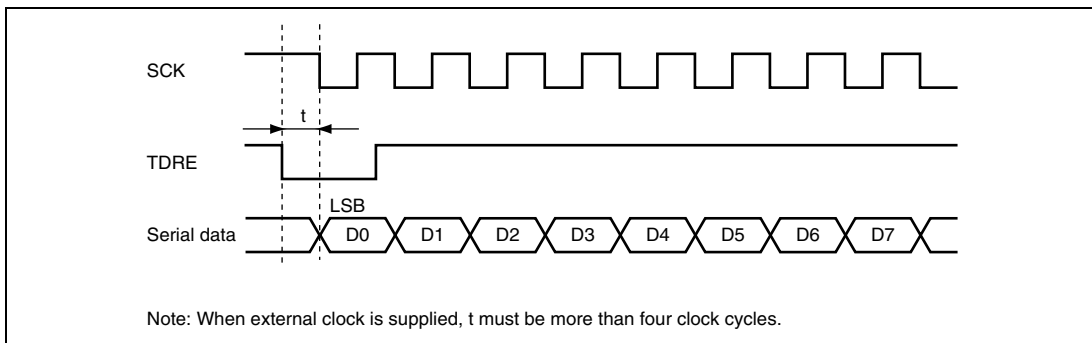

Figure 14.38 Sample Transmission using DTC in Clocked Synchronous Mode
- When the external clock source is used as a synchronization clock, update TDR by the DMAC or DTC and wait for at least five $P\phi$ clock cycles before allowing the transmit clock to be input. If the transmit clock is input within four clock cycles after TDR modification, the SCI may malfunction (see figure 14.38).